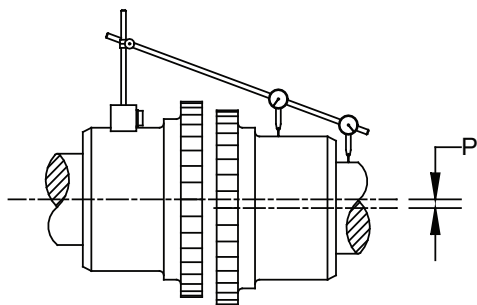

Figure 5 - Parallel Misalignment
- Parallel or offset misalignment is measured by mounting a dial indicator on the reducer coupling hub with the probe contacting outside diameter of the mating coupling hub or mating shaft (Figure 5). Slowly rotate the reducer shaft to determine the amount of parallel offset in both the vertical and horizontal planes. The difference in readings of the dial indicator gauge between any two locations 180° apart will be double the amount of actual eccentricity.